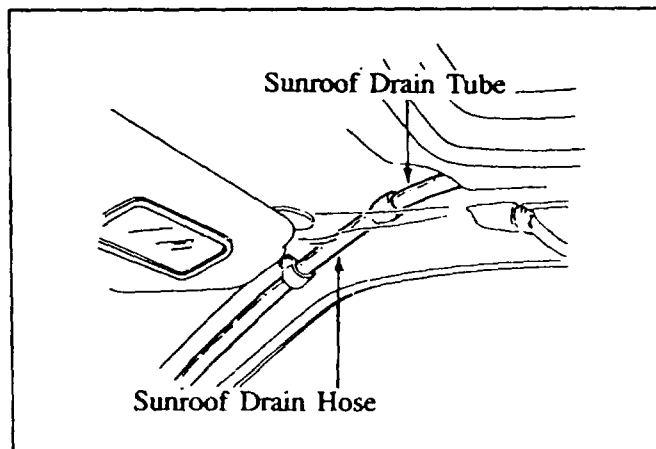

Figure 29: Checking Front Drain Hose and Tube
3. Carefully lower the headliner. Using a flashlight, check that the drain hose tubes are attached to the sunroof frame. **Figure 29.**